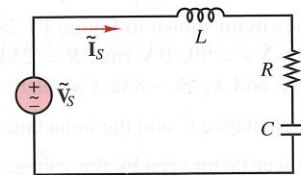

Figure P7.31
- 7.31** Calculate the apparent power, real power, and reactive power supplied by the voltage source shown in Figure P7.31. Draw the power triangle. Assume $f = 60\text{ Hz}$, $\tilde{V}_s = 70\angle 0\text{ V rms}$, $R = 18\text{ }\Omega$, $C = 50\text{ }\mu\text{F}$, and $L = 0.001\text{ H}$.